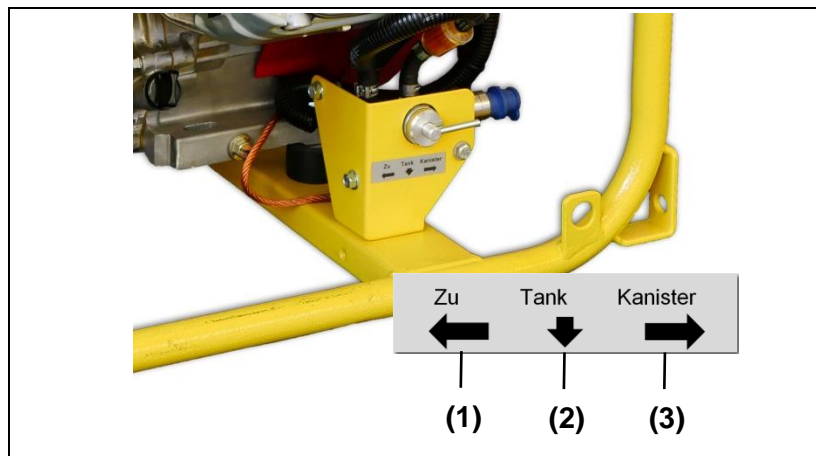

Fig. 5-11: 3-way fuel valve
3. Set the fuel cock on the internal tank (*Fig. 5-11-(2)*).
8. Set the fuel cock to "external fuelling" (*Fig. 5-11-(3)*).